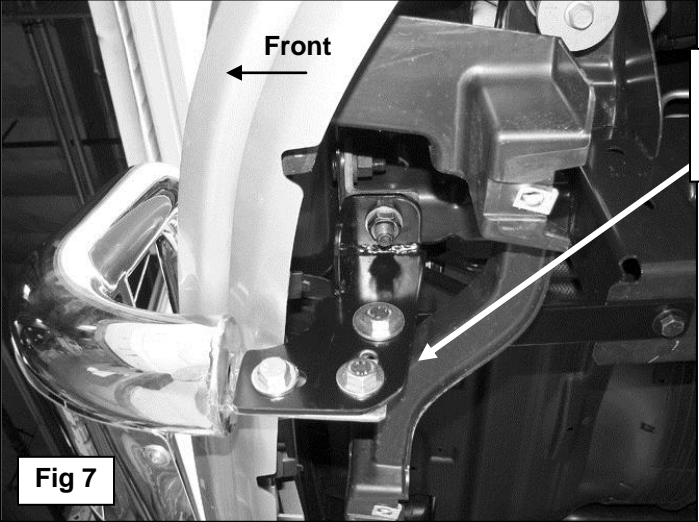

Fig 7
5. With help, position the Bull Bar on the inside of the Mounting Brackets. Use the included (4) 12-1.75mm x 35mm Hex Bolts, (4) 12mm Lock Washers, (8) 12mm Flat Washers and (4) 12mm Hex Nuts to attach the Bull Bar to the Mounting Brackets, **(Figure 7)**. **NOTE:** On vehicles with tow hooks, insert the rear bolt through the tab on the Bull Bar, the Mounting Bracket and through the flat end of the Support Bracket. Snug but do not tighten hardware.
9. Reinstall the Bull Bar described in **Step 5, (Figure 7)**.